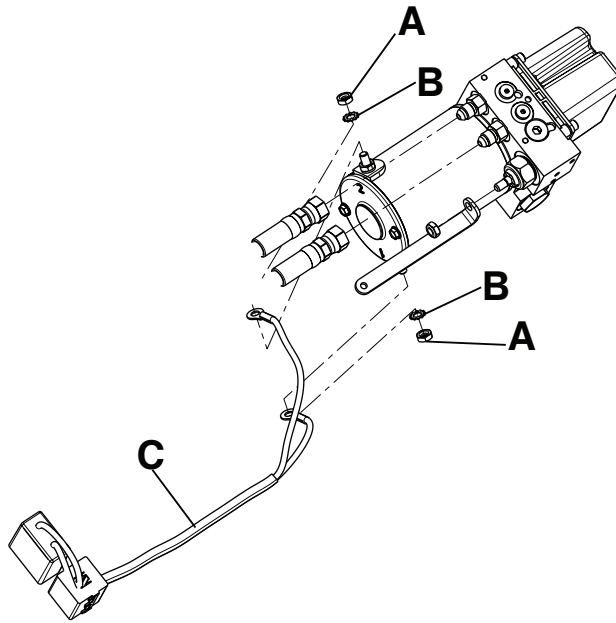

Figure 42 – Motor assembly
4. Using a 7/16" combination wrench, remove the two nuts (A) and star washers (B) that secure the motor cable (C) to the motor assembly (Figure 42).